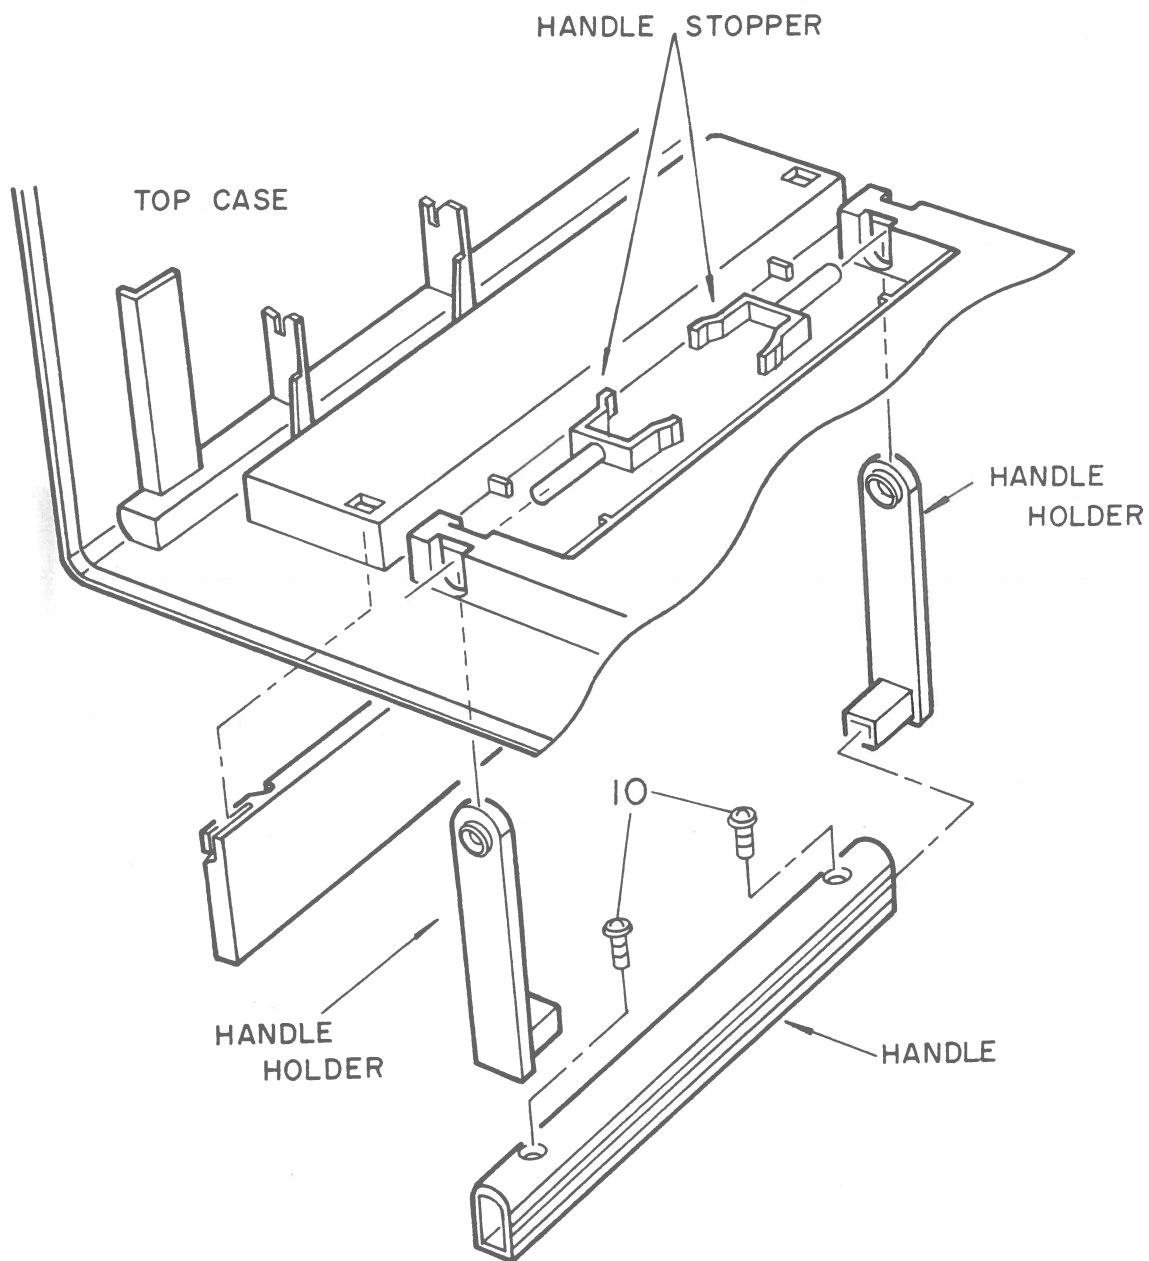

Figure 24
HANDLE DISASSEMBLY FROM TOP CASE (See Figure 24)
1. Draw the handle stoppers out and remove the handle holders from the top case as indicated in figure 24.
2. To replace the handle, remove two screws (Figure 24 Reference 10).